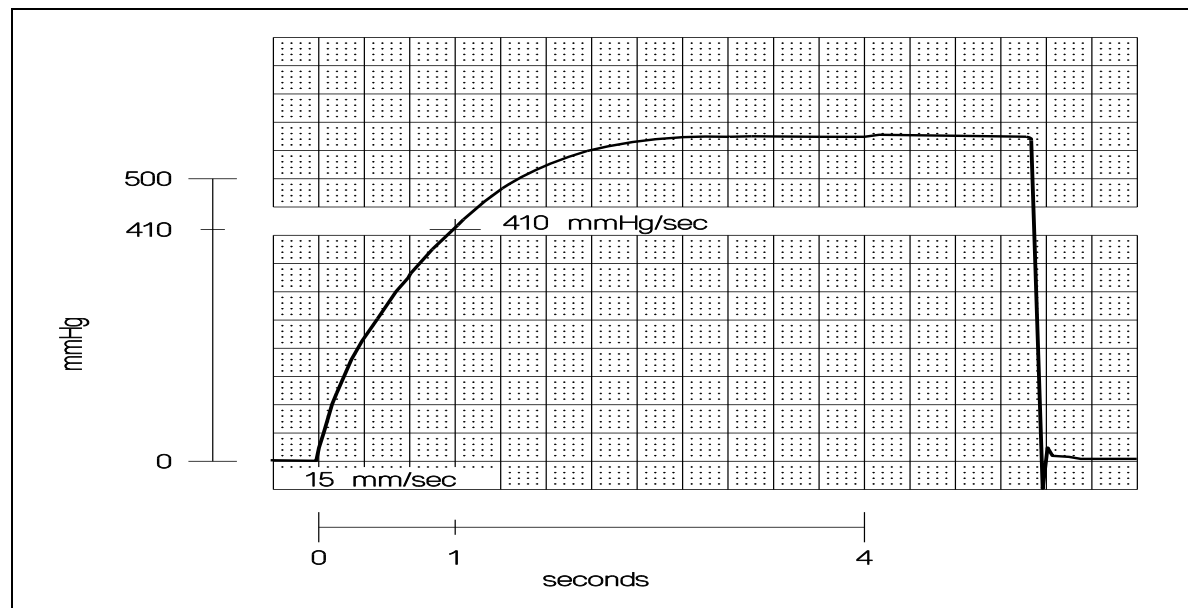

Figure 21. Calculation of Pressure Rise Rate
- In Figure 21, the pressure tracing rises from 0 mm Hg at the beginning of the rise to 410 mm Hg at the 1-second mark. The pressure rise rate is therefore $(410)/(1) = 410$ mm Hg/sec.